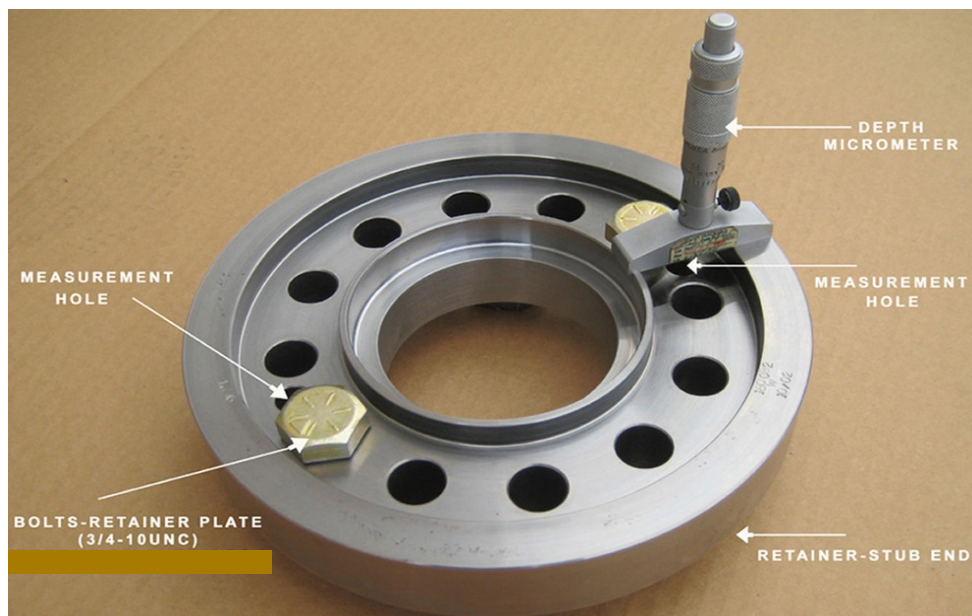
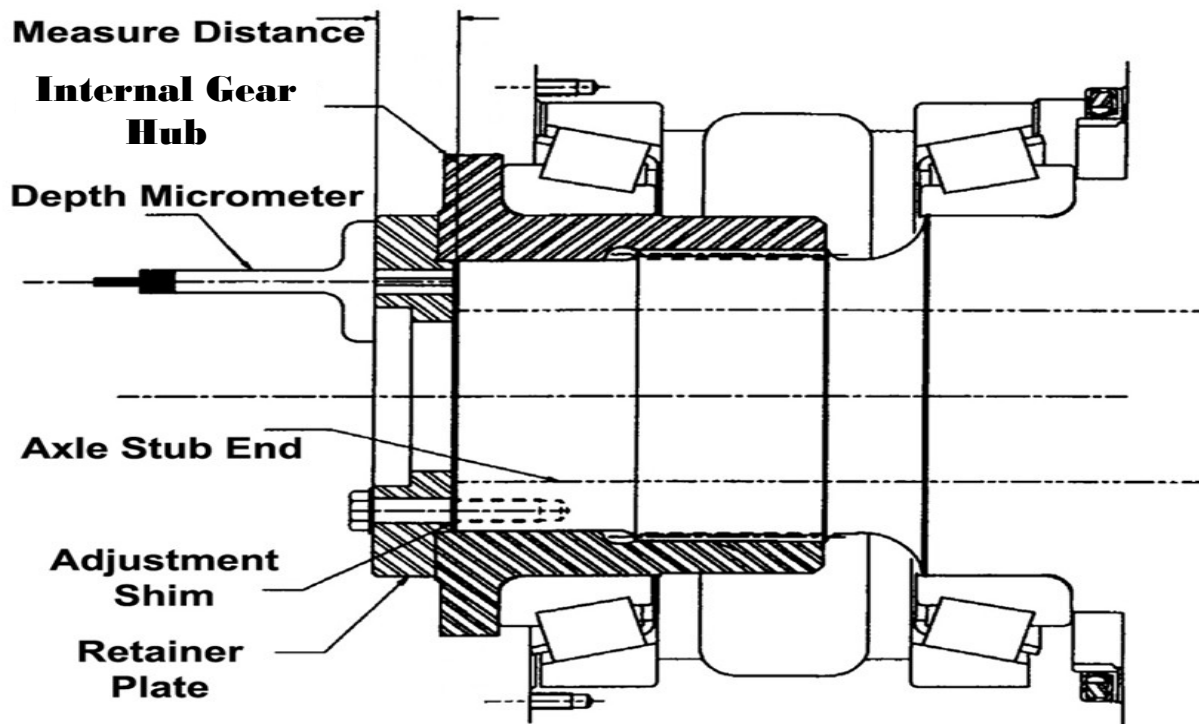

FIGURE 7
FIGURE 8
17. With wheel assembly being supported underneath the outer edge, install retainer plate without shims using two retainer plate bolts (3/4-10UNC) spaced 180° apart and next to the two measurement holes. See **(Figure 7)**. Do not lube the bolt threads, install the bolts clean and dry. All threads in the stub end must be clean and dry. Tighten the bolts until retainer plate is snug against internal gear hub and looseness is taken out of the bearings but the bolts are not tight.
22. Using a depth micrometer, measure the total distance from the outer surface of the retainer plate to the spindle end, through each of the two retainer plate measurement holes and average the two measurements and record. See **(Figure 7, PAGE 15 and Figure 8, PAGE 16)**.